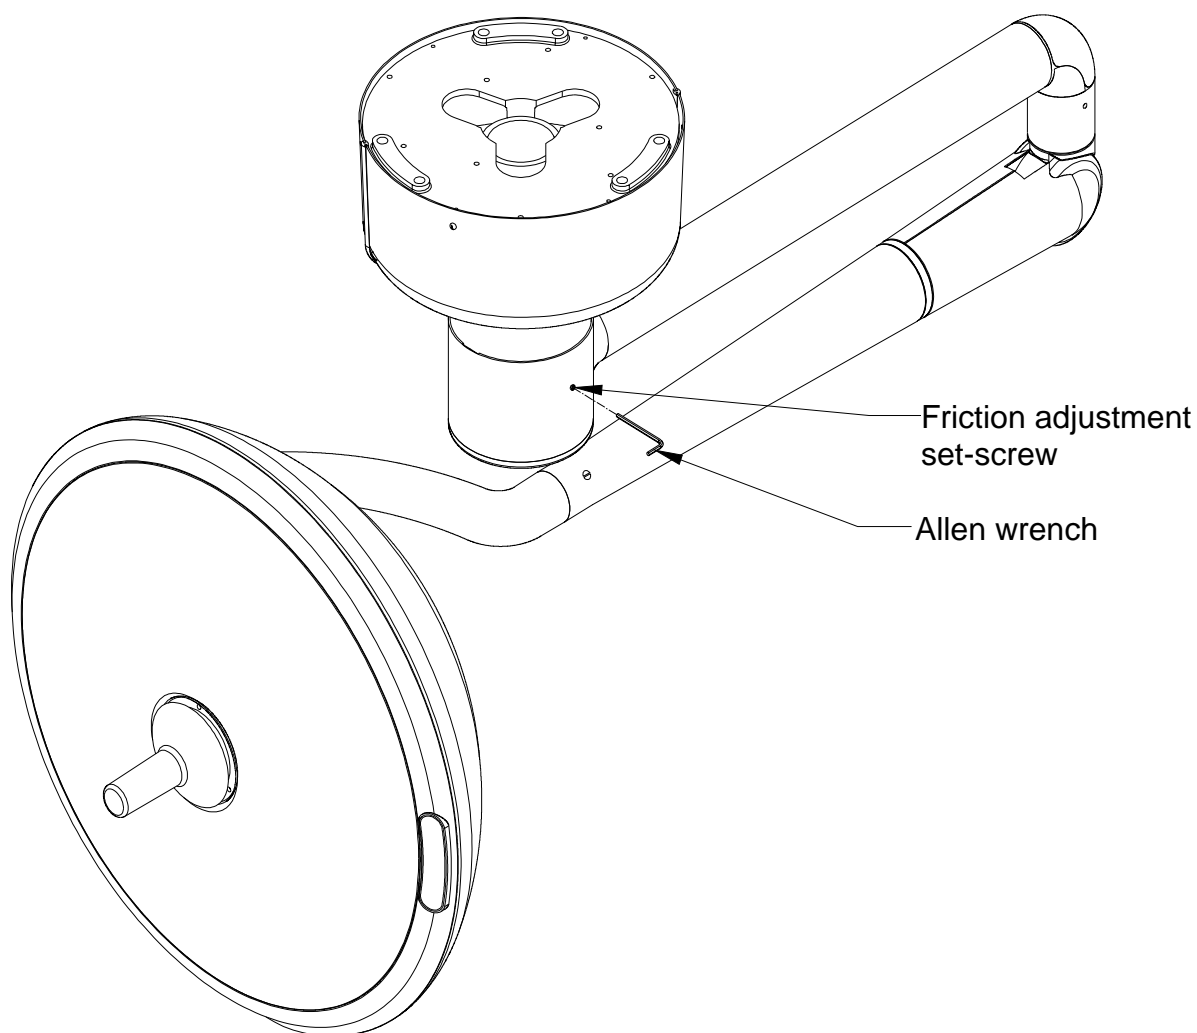

Figure 32- Arm/Head Friction Adjustment
- Using the 3/16" Allen wrench (supplied in the hardware kit) turn the set screw located on the arm housing clockwise to increase friction or counterclockwise to decrease friction. (See Figure 32 for adjustment location)